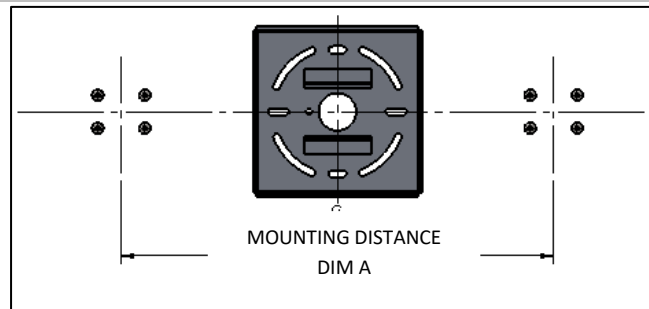

FIG. 6 - VIEW SHOWING MOUNTING INFORMATION
2. Mark Hole locations for the ANCHOR BRACKETS on wall as shown in FIG.6 and MOUNTING INFORMATION TABLE.